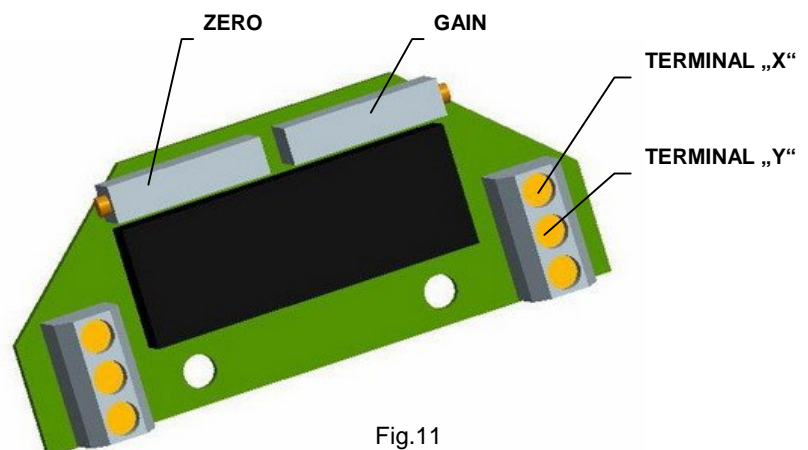

Fig.11
4.6.2 EPV – 3-wire version (Fig. 11)
- Adjust the resistive transmitter according to the previous chapter. The resistance is to be metered on the terminals X-Y (Fig. 11). The used transmitter resistance is 2000 Ω or 100 Ω .
- Turn the adjusting trimmer ZERO (Fig. 11) to adjust the output current signal rate measured on the terminals 81-82 to 0 mA or 4mA.
- Turn the adjusting trimmer GAIN (Fig. 11) to adjust the output current signal rate measured on the terminals 81-82 to 20mA or 5 mA.